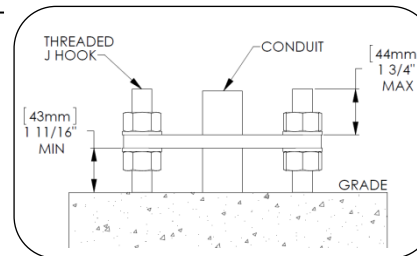

Fig. 3 – Anchor install detail, 5in or 6in pole
2. Install anchor hooks, hex nuts, washers and wooden template as shown in Fig 3 and Fig. 4. Level template in all directions. **Note:** template thickness is less than base plate thickness. Dimensions given account for the difference.